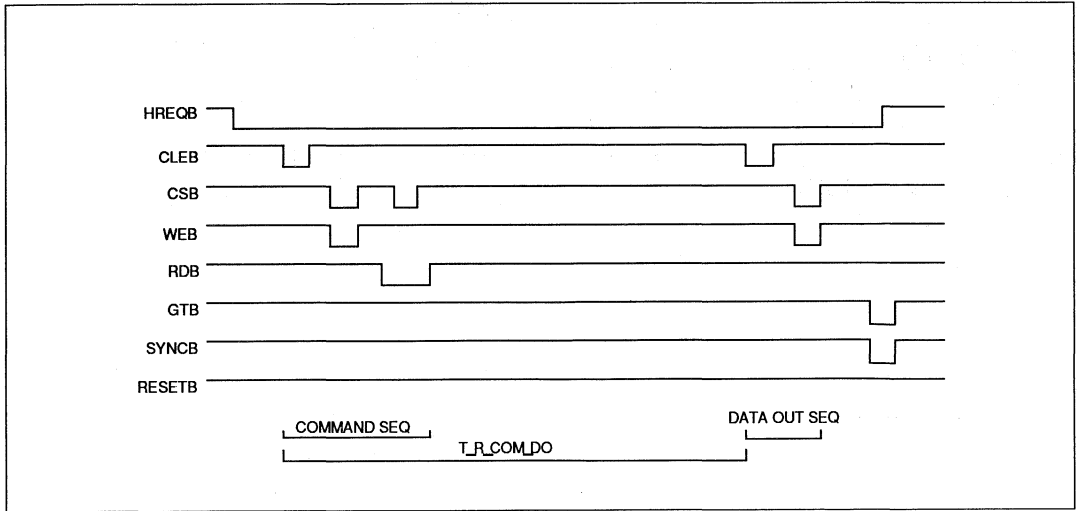

Figure 2.11: Receive Mode Code + Data
**RECEIVE MODE CODE + DATA** ( Figure 2.11 )